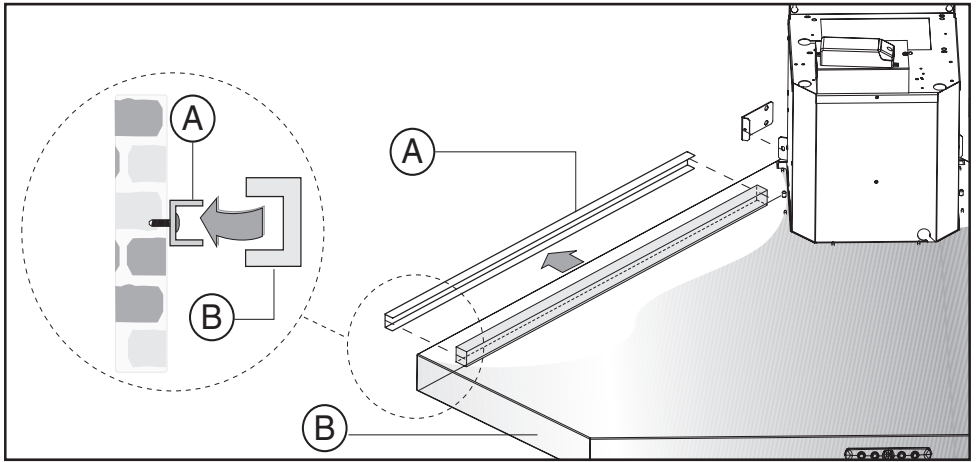

Fig.3
- Take the hood and (in line with our advice), with the help of another person, thread the hood **B** along the guide rails **A** (fig. 3).